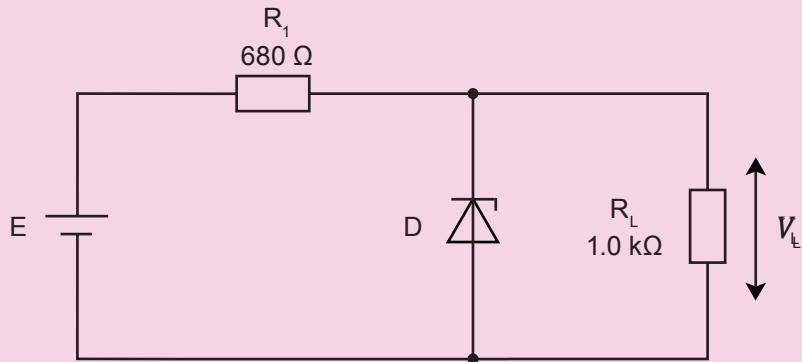

Figure 7.63
1. The Zener diode in Figure 7.63 has a Zener voltage, V_z , of 5.1 V. Determine the voltage across R_L when the DC supply is set to (a) 6.0 V and (b) 12 V.
2. Calculate the power dissipated in the Zener diode in Figure 7.63 when the DC supply is set to (a) 6.0 V and (b) 12 V.